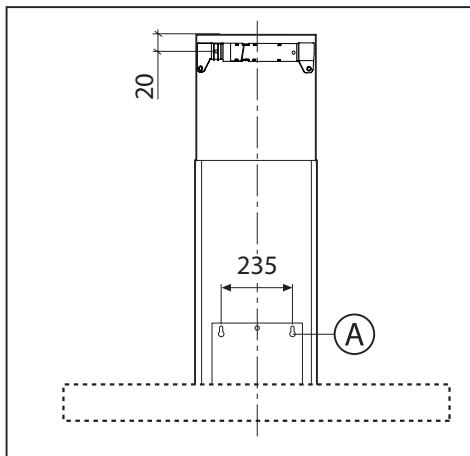

Fig.2
- Drill the holes **A** respecting the distances indicated (Fig.2).
- Then fix it to the ceiling using the screws **A** (Fig.4) in such a way that it is in line with your hood and respecting the distance from the ceiling indicated in Fig.2.